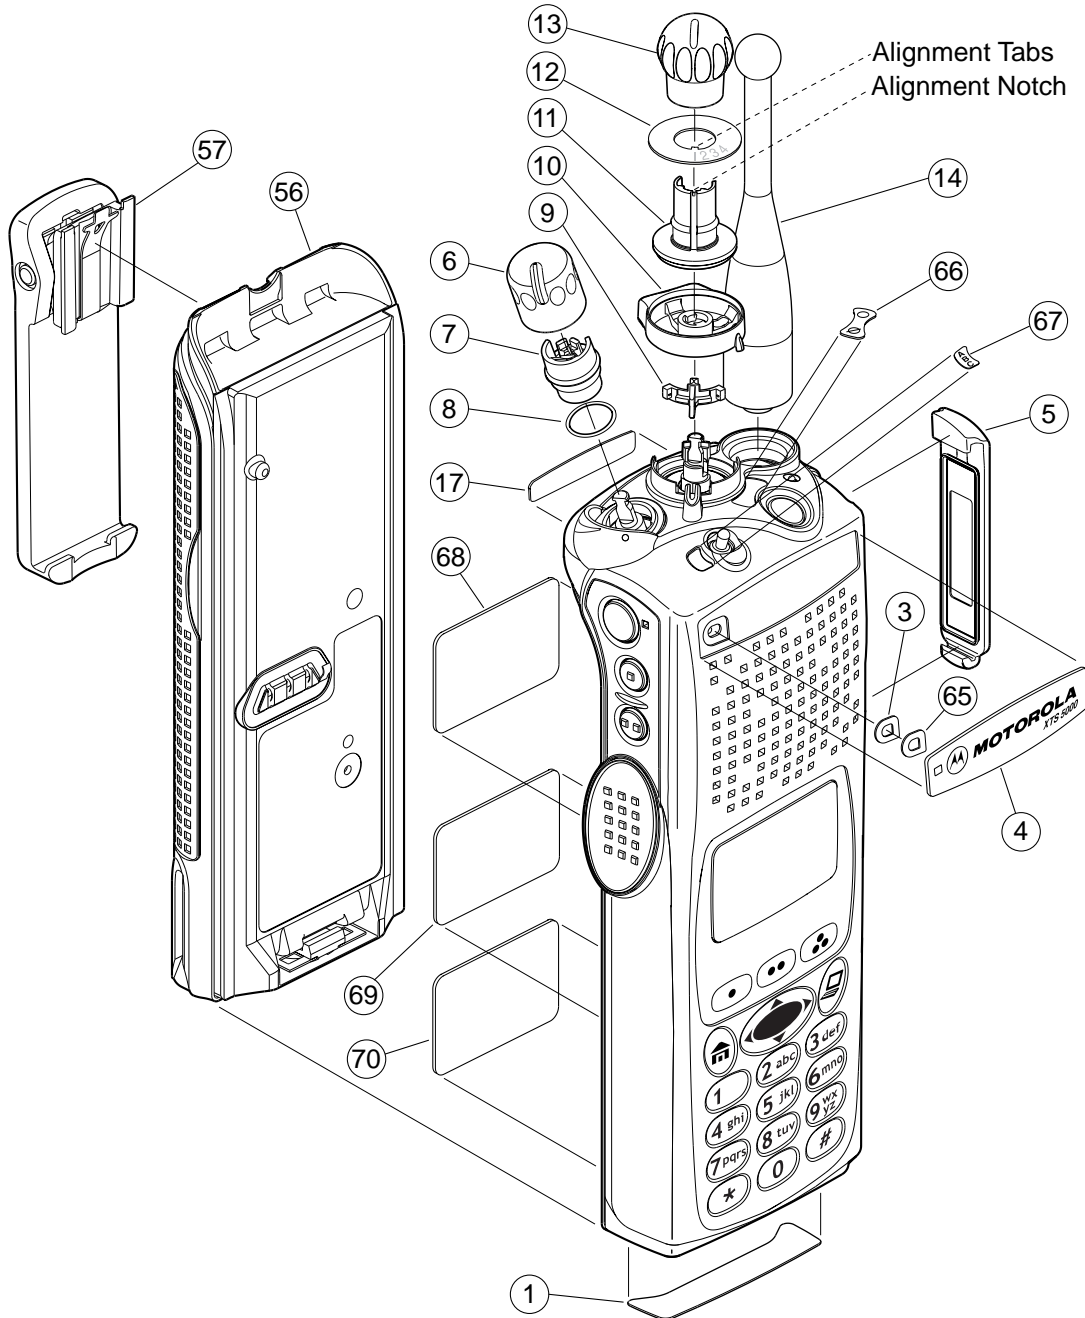

Figure 29. Partial Exploded View
- Refer to Figure 29, the Partial Exploded View, and Table 15, the Partial Exploded View Parts List. Numbers in parentheses () refer to item numbers in Figure 29 and Table 15.
- The battery (56) should be removed from the radio before installing or removing the frequency knob (13).
- In cases where the frequency knob retainer insert (11) and frequency dial escutcheon (12) must be removed, a new insert and new escutcheon **must** be used for reassembly.
- Refer to Figure 29. on page 44, the Partial Exploded View, and Table 15 on page 45, the Partial Exploded View Parts List. Numbers in parentheses () refer to item numbers in Figure 29 and Table 15.
- The battery (56) should be removed from the radio before installing or removing the volume knob (6).
- In cases where the volume insert (7) must be removed, a new volume insert **must** be used for reassembly.